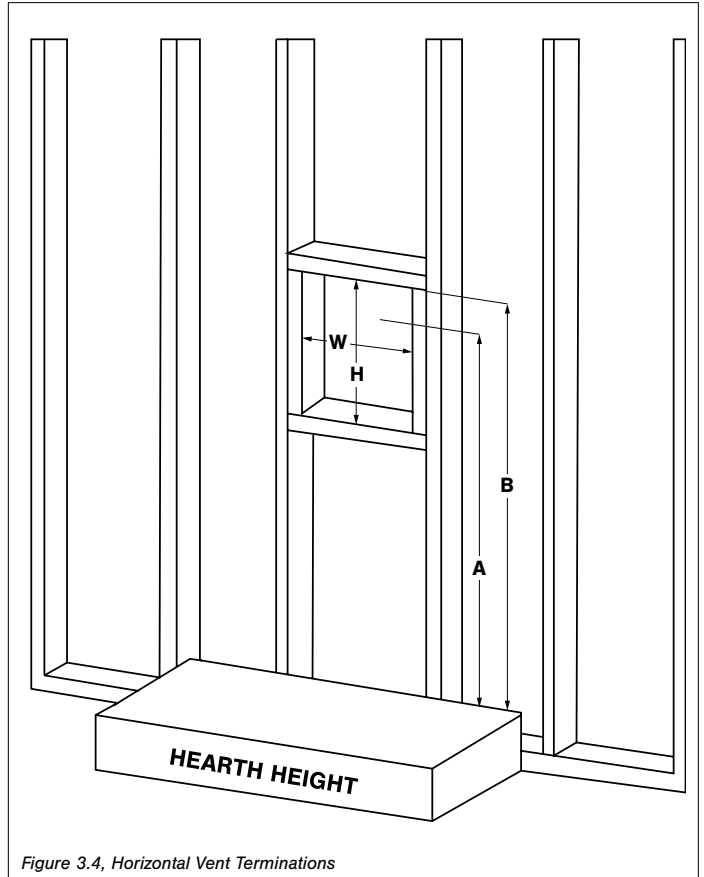

Figure 3.4, Horizontal Vent Terminations
- Refer to Table 3.2 and Figure 3.4 for horizontal vent framing.